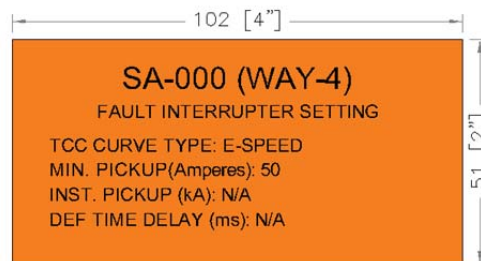

Figure-4 Fault Interrupter Setting Value Label (Example)
- Figure-4 Fault Interrupter Setting Value Label (Example)